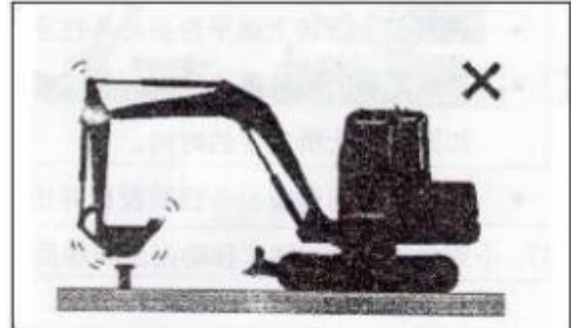

Fig 3-36
13. Do not use the bucket as a hammer or pile driver, as this is dangerous and may cause damage to the front device. See Figure 3-36